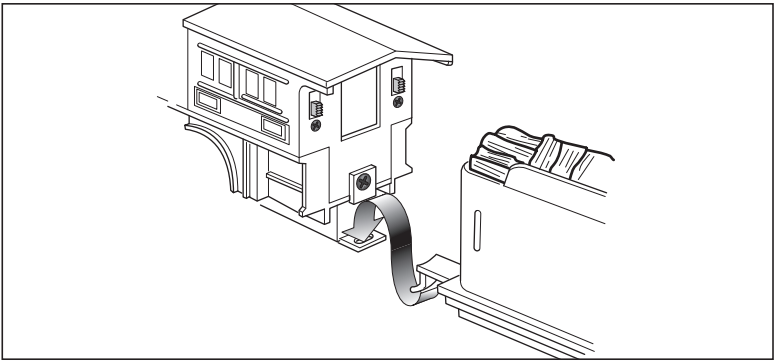

Figure 1. Drawbar connection
- **With track power OFF**, connect the drawbar between locomotive and tender. Refer to Figure 1.